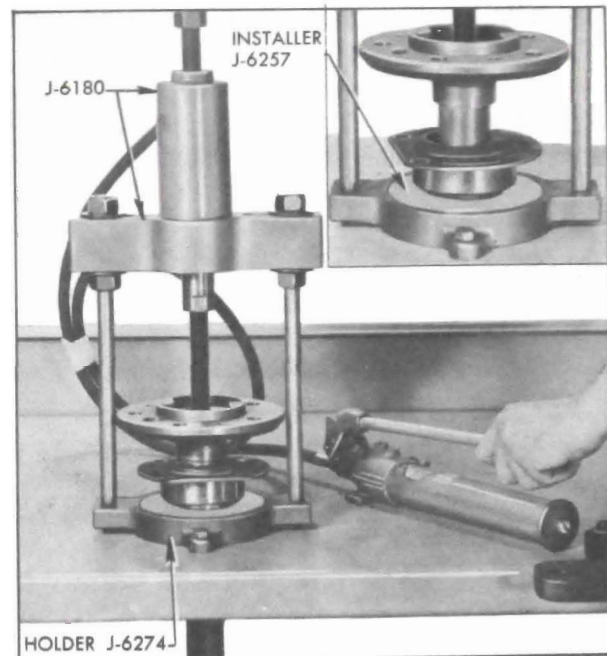

Figure 6-7—Installing Rear Wheel Bearing or Retaining Ring
4. Press bearing and seal assembly against shoulder on axle shaft using Installer J-6257 either in a press or in a set-up using Ram and Yoke Assembly J-6180 and Holder J-6274 as shown in figure 6-7.